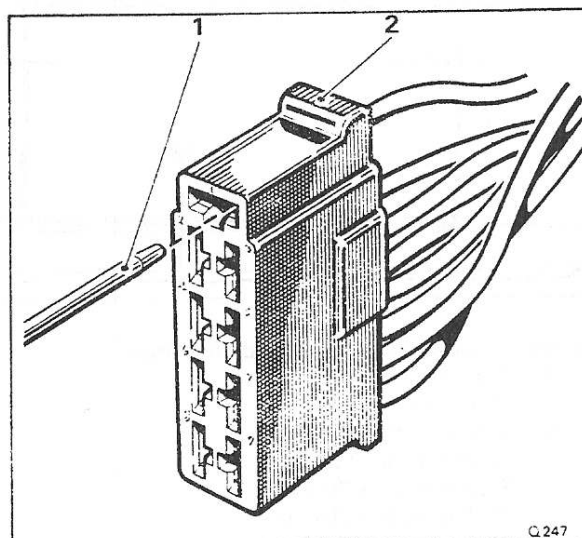

Fig. S2 Positioning the cable release tool into a loom plug (Camargue)
4. Using a small screwdriver or metal rod of approximately 1,60 mm. (0.062 in.) diameter disengage the spring clip securing each cable connector then, withdraw the cable and connector (see Fig. S2).